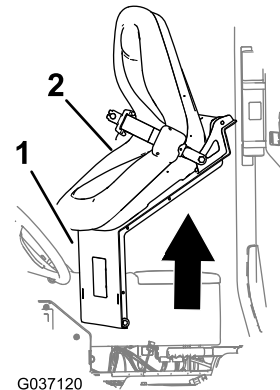

Figure 8
5. Lift the seat and seat plate up and out of the machine (Figure 8).